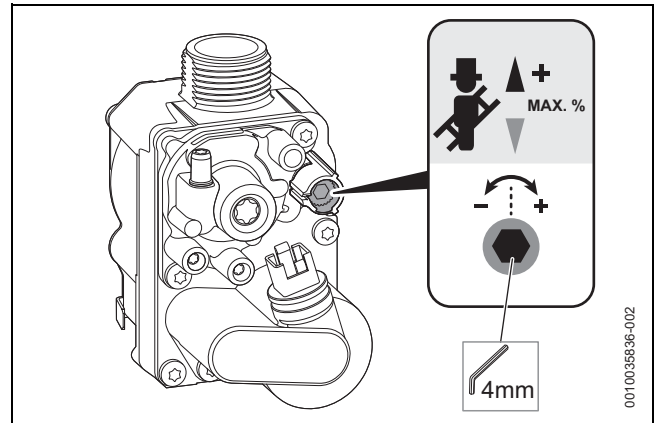

Fig. 88 Setting the CO2 content
- ▶ Insert the hex tool into the adjusting screw of the gas valve (as shown in the below Figure 88) and set the CO2 content for maximum rated output.